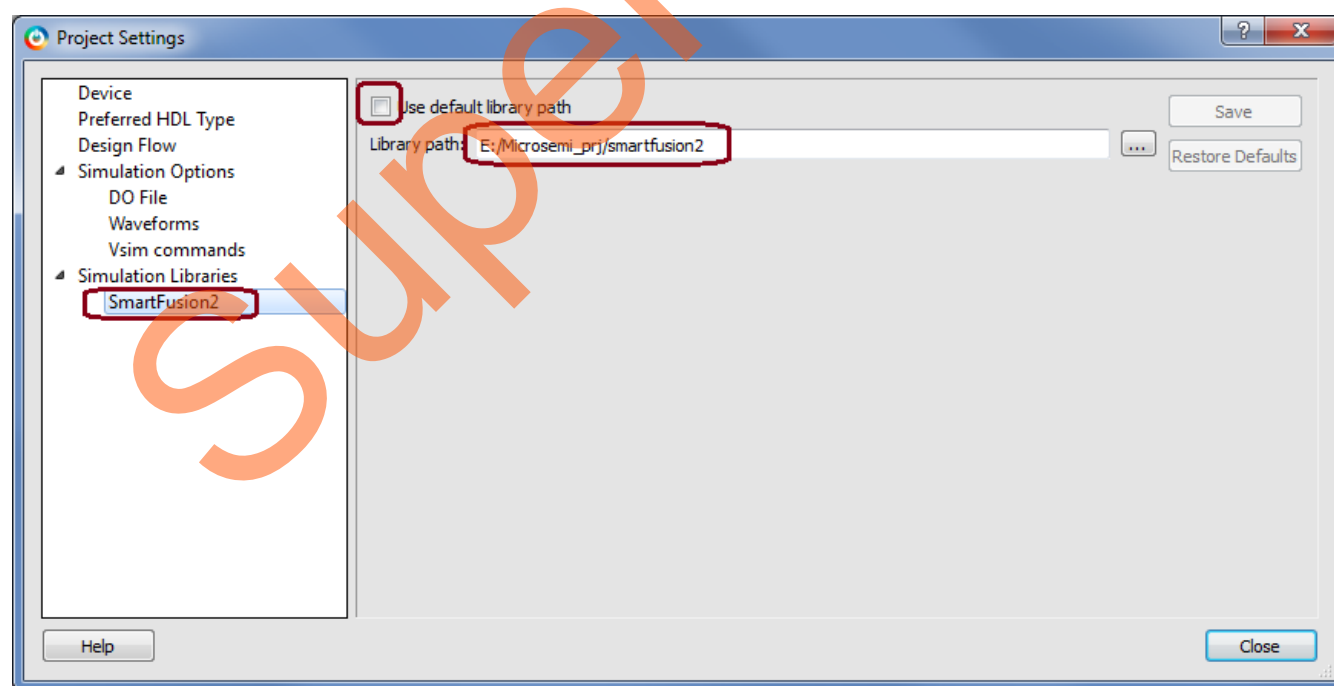

Figure 43.Project Settings – Specifying Precompiled Library Path
- II. In the **Library path**, enter the new location where you copied the precompiled library (for example, E:/Microsemi_prj/smartfusion2), as shown in Figure 43.